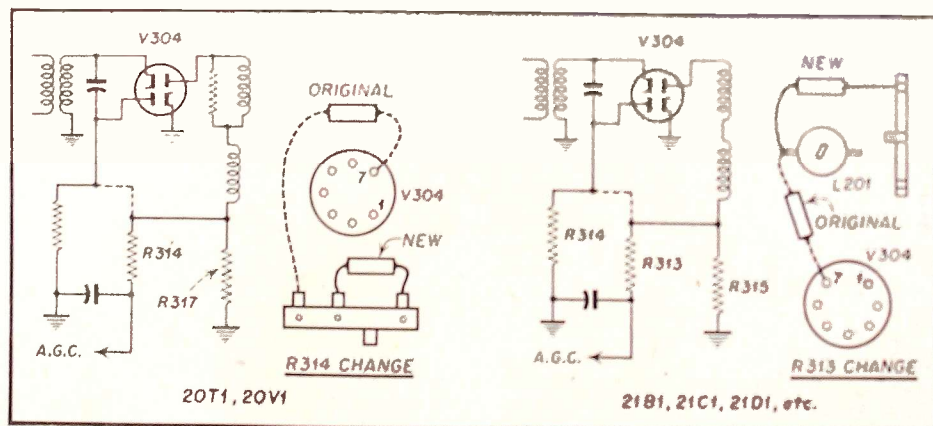

Fig. 3. Admiral Model 20T1 and 20V1 circuit change (left). Models 21B1, 21C1, 21D1, etc. changes shown at right.
- (1) Locate V304 (6AL5). See Fig. 3
- (2) Disconnect resistor R314 (680K) from pin 7 of V304
- (3) Connect R314 as shown in Fig. 3 left.
- (4) Remove tuner AGC lead (white) from AGC lug and ground the wire to the chassis.
- (1) Locate V304 (6AL5)
- (2) Disconnect resistor R313 (560K) from pin 7 of V304
- (3) Connect R313 as shown in Fig. 3 right.